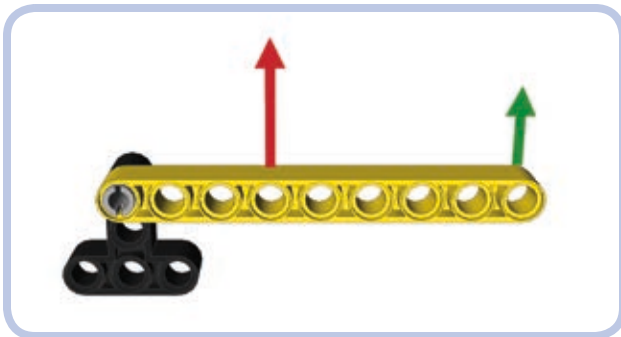

Figure 7-6: Class 2 lever with the load (red) in the middle and the fulcrum and effort (green) at its ends
- * **Class 2** (see Figures 7-6 and 7-7): The load is located in the middle of the lever and the fulcrum and effort at its ends. Example: a wheelbarrow, with the wheel being its fulcrum.